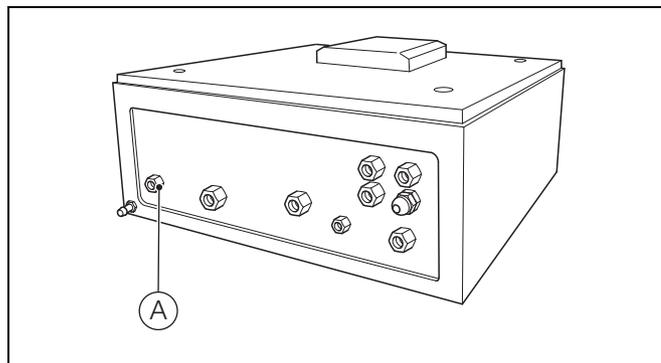

Fig. 10.2 Calibration air inlet connection
1. Referring to Fig. 10.2, connect a calibrated air pressure regulator with gauge to connection (A) (Calibration Air) on the bottom of the control unit enclosure using 6 mm (1/4 in.) tubing.